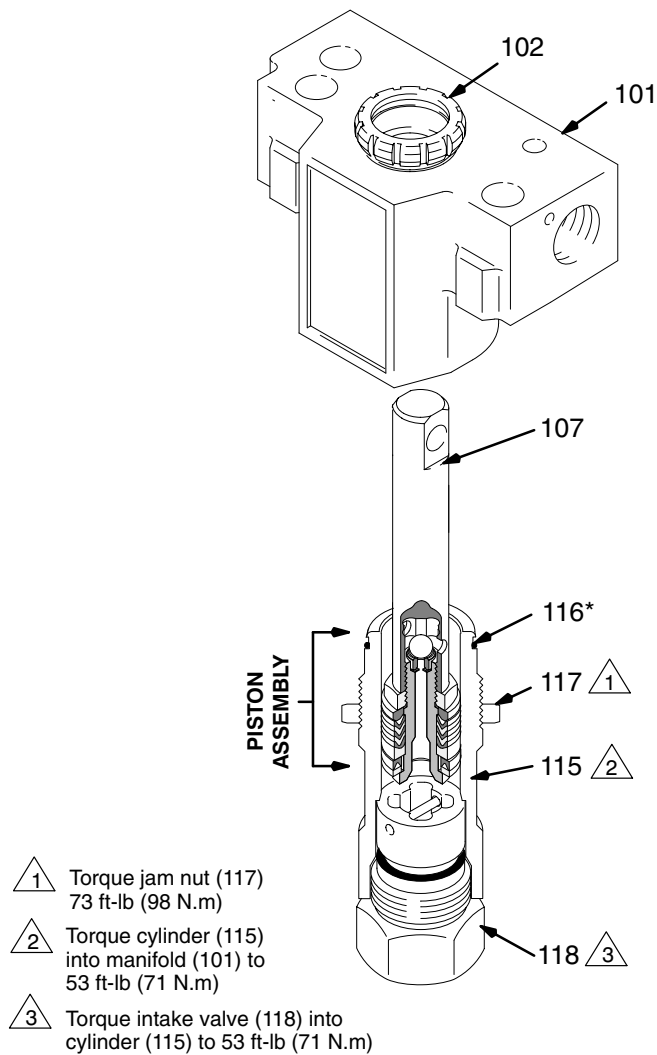

Fig. 22
11. Place a new o-ring (116*) firmly in the cylinder groove. See Fig. 22.
12. Coat the piston rod and packings with oil. Carefully slide the assembly into the top of the cylinder (115). See Fig. 22.
13. Put the manifold in a vise. Fully thread the jam nut (117) onto the cylinder (115). Guide the rod/cylinder assembly down through the manifold (101). Screw the cylinder (115) into the manifold. See Fig. 22.
14. Place the ball guide (120), stop pin (122) and ball (121*) in the cylinder (115). Screw the intake valve into the cylinder and torque to 53 ft-lb (71 N.m). This will also properly torque the cylinder into the manifold. See Fig. 22.
15. Torque the cylinder jam nut (117) to 73 ft-lb (98 N.m). See Fig. 22.